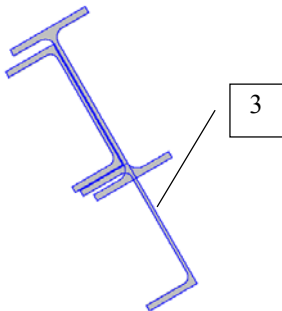

Fig. 51. The section after the second section has been set
- ↵ press the **Add** button (Fig 51). In this case again the intersection of the elements shall be ignored;